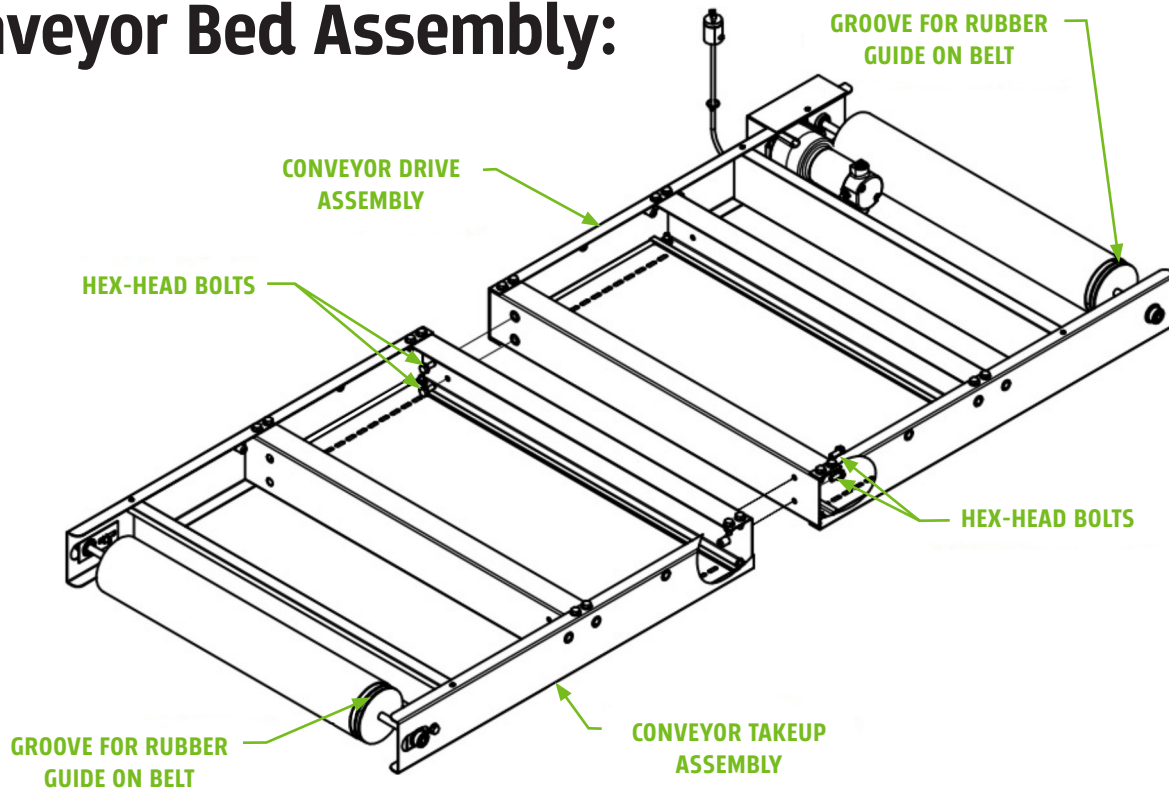

FIGURE 1
1. Place the Conveyor Drive Assembly on the covered floor (See **Figure 1**).